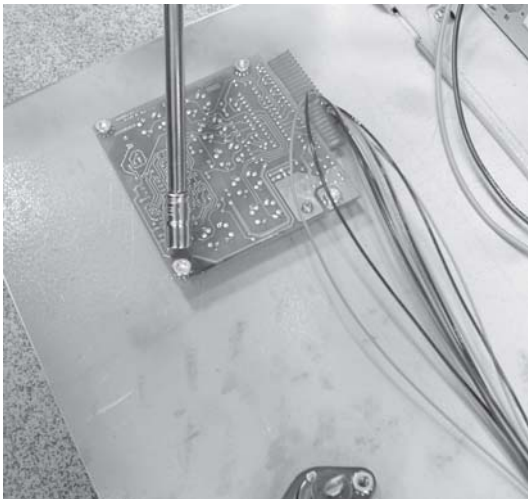

Figure 2
4. Using a 5/16 in. socket, remove the nuts securing the PC board to the panel. Figure 2.